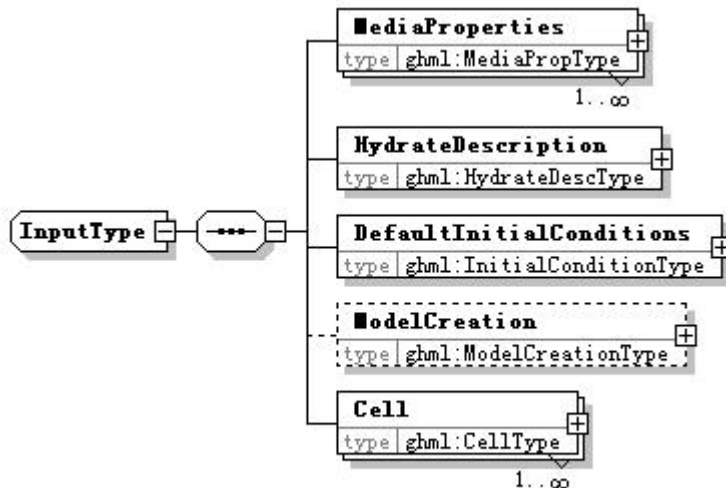

Figure 2. InputType
- **Input Parameter[*ghml:InputType*]**: This is one of the most important elements in this portion, which includes five complex elements, each of which answers one important modeling question (as shown as Figure 2).